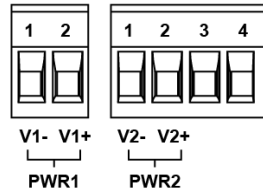

Figure 1
1. Insert the positive and negative wires into the **PWR1 (V1+, V1-)** and **PWR2 (V2+, V2-)** contacts on the terminal block connector as shown below in *Figure 1*.